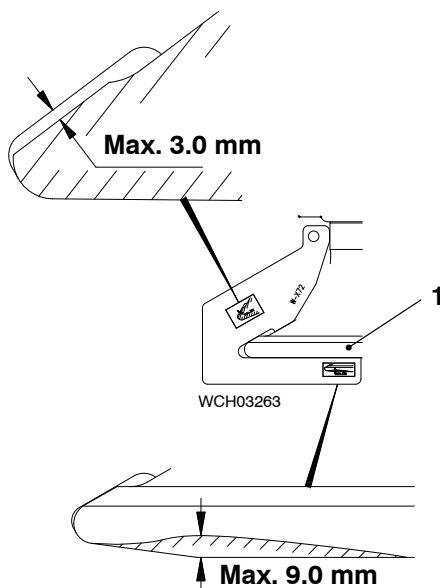

Fig. 2
- 4) Put the gauge (94292) on the valve head (1, Fig. 2).
- a) Use the tool (94291) to grind the surface of the valve head (1). Remove only the minimum material necessary to get a smooth, flat surface.
- b) Use an applicable coolant to keep the valve head (1) cool.
- c) Keep the angle of the valve head (1) to between 30°16' and 30°18'.
If the corrosion is less than or equal to 9.0 mm (see Fig. 2\), the valve spindle can be repaired.